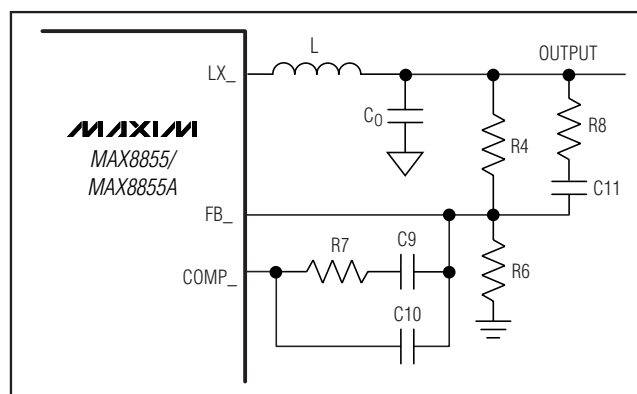

Figure 4. Type III Compensation Network
The output voltages for regulator 1 (with REFIN connected to SS1) and regulator 2 are set with a resistor voltage-divider connected from the output to FB\_ to GND as shown in Figure 4. Select a value for the resistor connected from output to FB\_ (R4 in Figure 4) between 2kΩ and 10kΩ. Use the following equations to find the value for the resistor connected from FB\_ to GND (R6 in Figure 4):
The high-switching-frequency range of the MAX8855/MAX8855A allows the use of ceramic output capacitors. Since the ESR of ceramic capacitors is typically very low, the frequency of the associated transfer-function zero is higher than the unity-gain crossover frequency,  $f_C$ , and the zero cannot be used to compensate for the double pole created by the output filtering inductor and capacitor. The double pole produces a gain drop of 40dB and a phase shift of 180° per decade. The error amplifier must compensate for this gain drop and phase shift to achieve a stable high-bandwidth closed-loop system. Therefore, use type III compensation as shown in Figure 4. Type III compensation possesses three poles and two zeros with the first pole,  $f_{P1\_EA}$ , located at 0Hz (DC). Locations of other poles and zeros of type III compensation are given by: